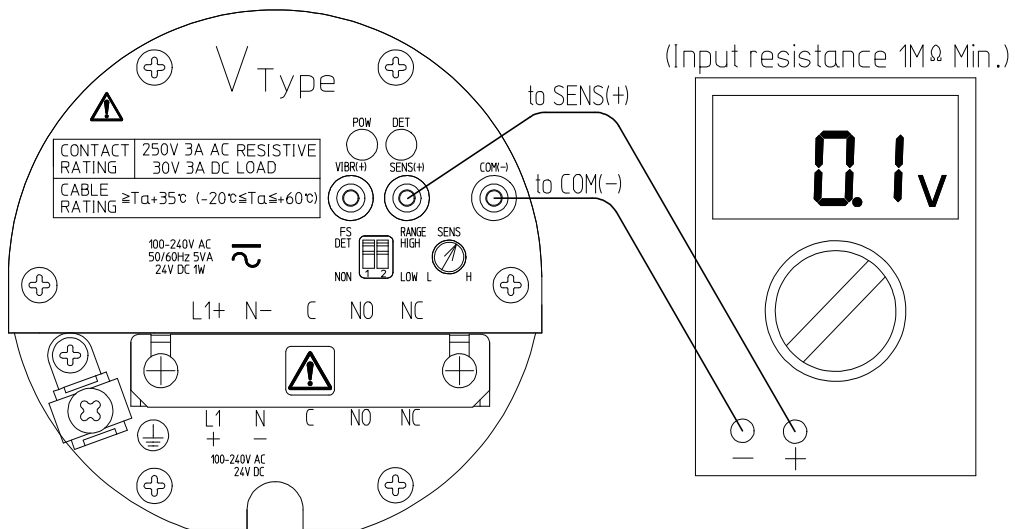

Fig. 8-2
- (1) Sensitivity can be adjusted with or without the product detecting the material.
- (2) Ensure that the product is powered up. Initial reset time is approximately 15 seconds and the relay is de-energized during that time.
- (3) Prepare the digital meter so that it measures voltages between 0 and 5V DC with 0.1V resolution. Connect the positive wire to the sensitivity check terminal, and the negative wire to the COM terminal. See figure 8-2.